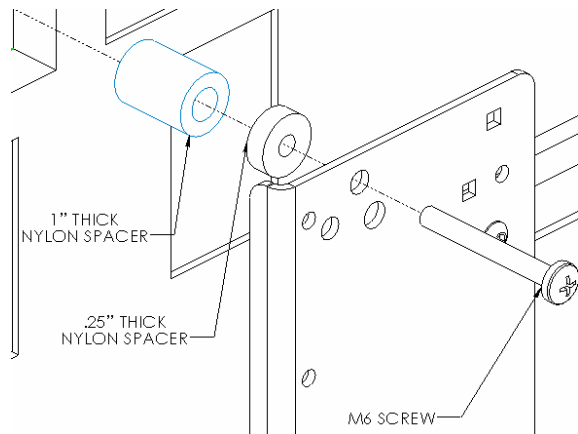
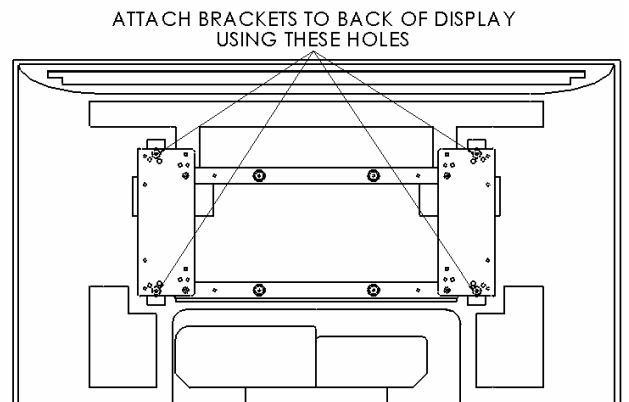

Figure 8
Figure 9
5. **Bracket Installation:** Stack both length of nylon spacers over mounting holes of screen and attach brackets to back of display using the M6 screws (see Figure 8 & Figure 9). Do not over tighten screws.